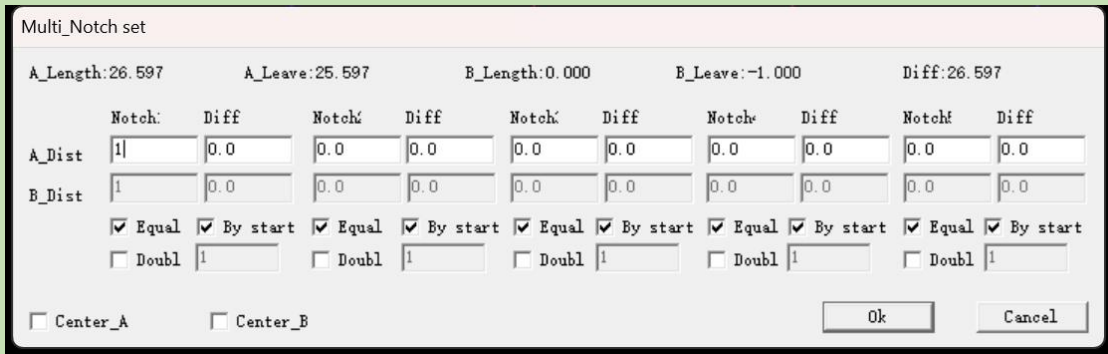

Figure5-6
(1) While selecting the notch for alignment tool or pressing the H key, left click on the starting end of the outline of the first group of notches for alignment, and right-click to end.
(2) Then successively left click on the starting end of the outline of the second group of notches for alignment, and right-click to end.
(3) Right-click again to confirm and a dialog box will appear as shown in Figure 5-6. Enter the relevant notch information.